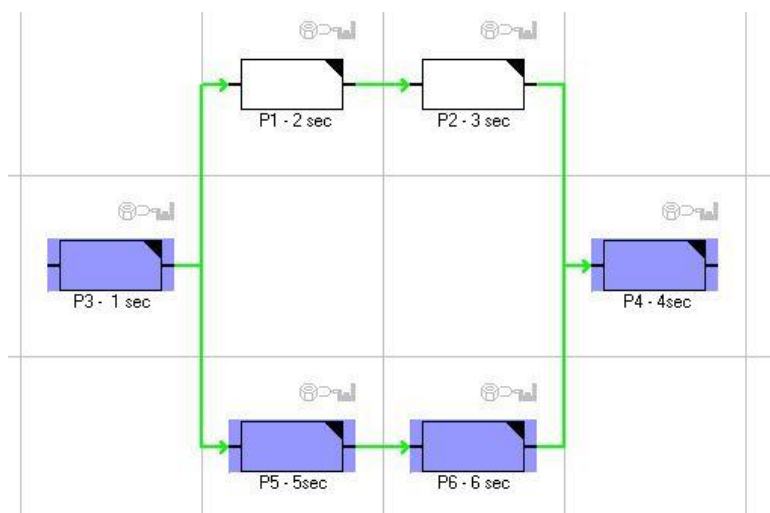

Figure 137: Example – Critical Path for Two Processes Arranged Parallel
- Critical path equals **16 seconds** (marked blue). Please refer to the Figure 137.